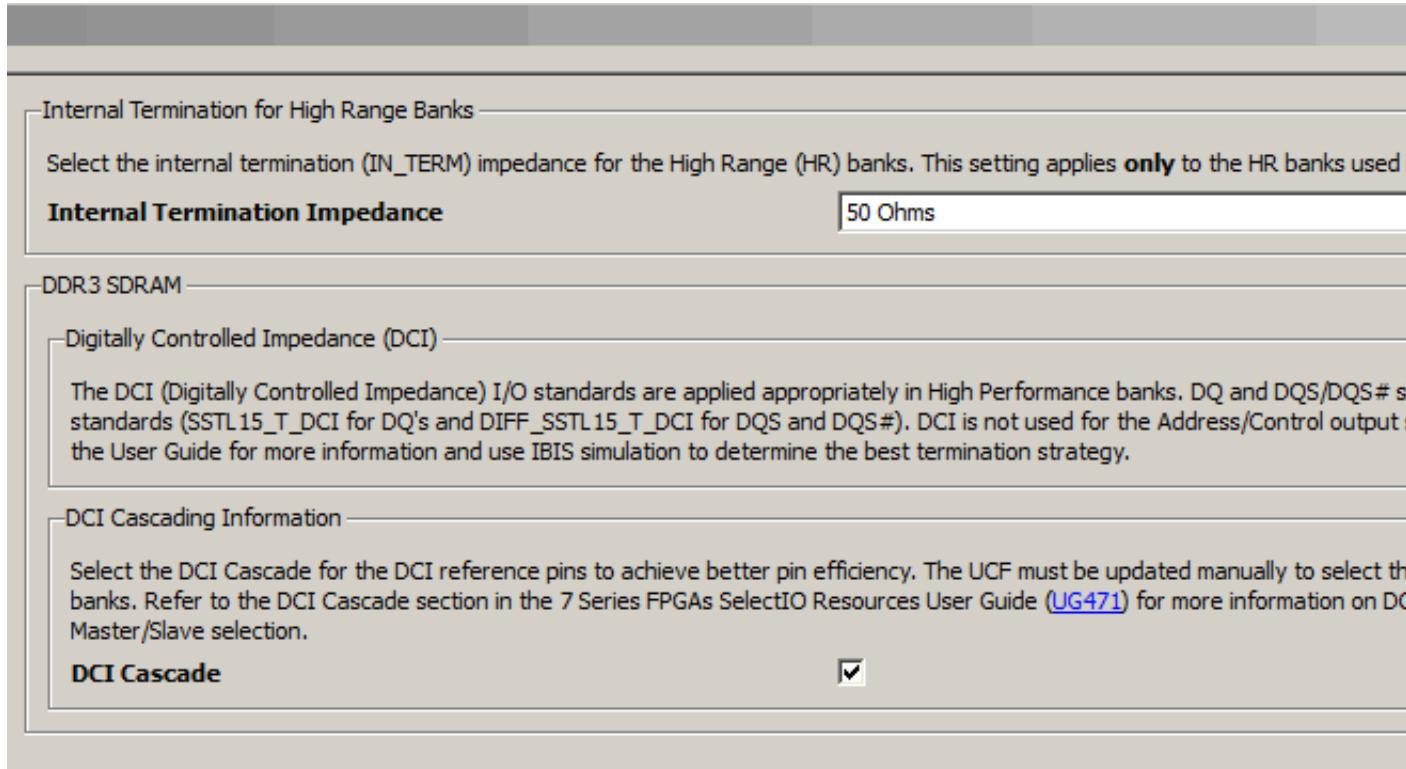

Figure 33: MIG Extended FPGA Options
13. Click **Next** (Figure 33).